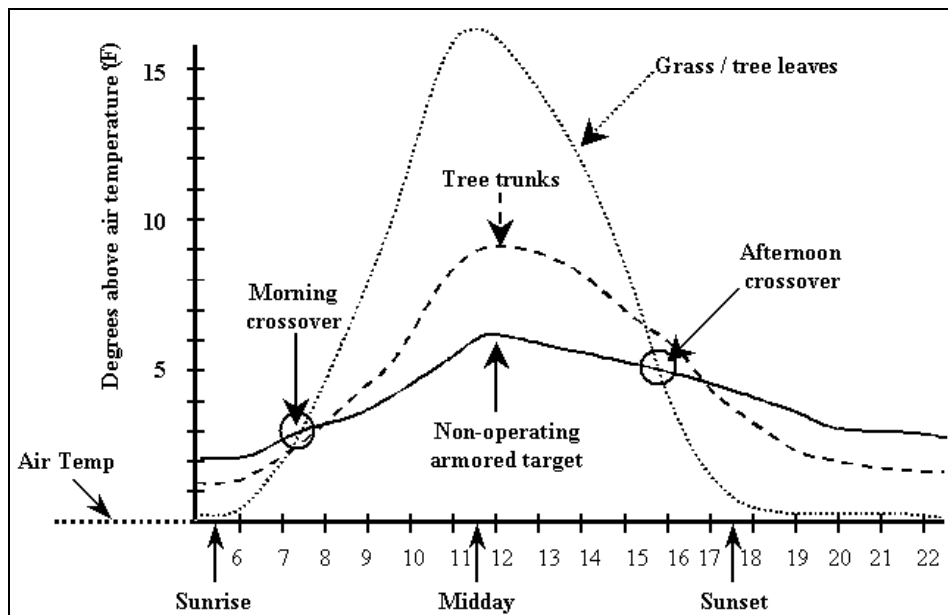

Figure 15 – Thermal crossover and natural objects
c. Crossover is not limited to “traditional” targets and their background(s). Thermal crossover can also regularly occur with natural objects (figure 15).